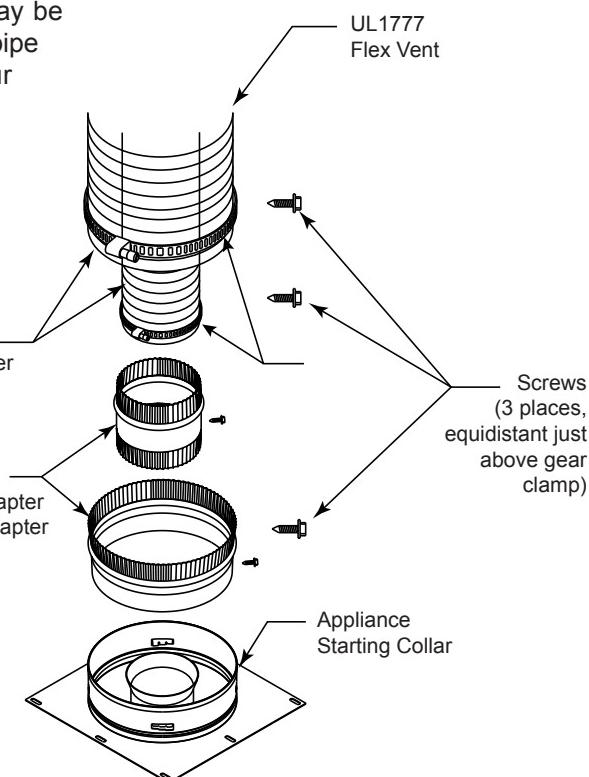

Figure 24 -
- The flex adapter starter kit (DVF8A/8) is used to attach flex venting to the appliance starting collar. It includes 5" inner and 8" outer adapter rings. *Figure 24*
A. Installing the inner flex adapter and pipe. *Figure 24*
B. Installing the outer flex pipe. *Figure 24*